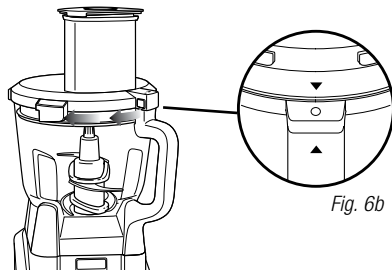

Fig. 6a
- 9 Holding the feed chute lid, place it on top of the bowl and turn clockwise aligning the arrow located on the lid with the arrow located on the bowl's handle. You will hear a click when the lid is locked in place. (Fig. 6a) The triangles on the lid and the Processor Bowl handle **MUST** be aligned in order for the blender to turn on. (Fig. 6b)